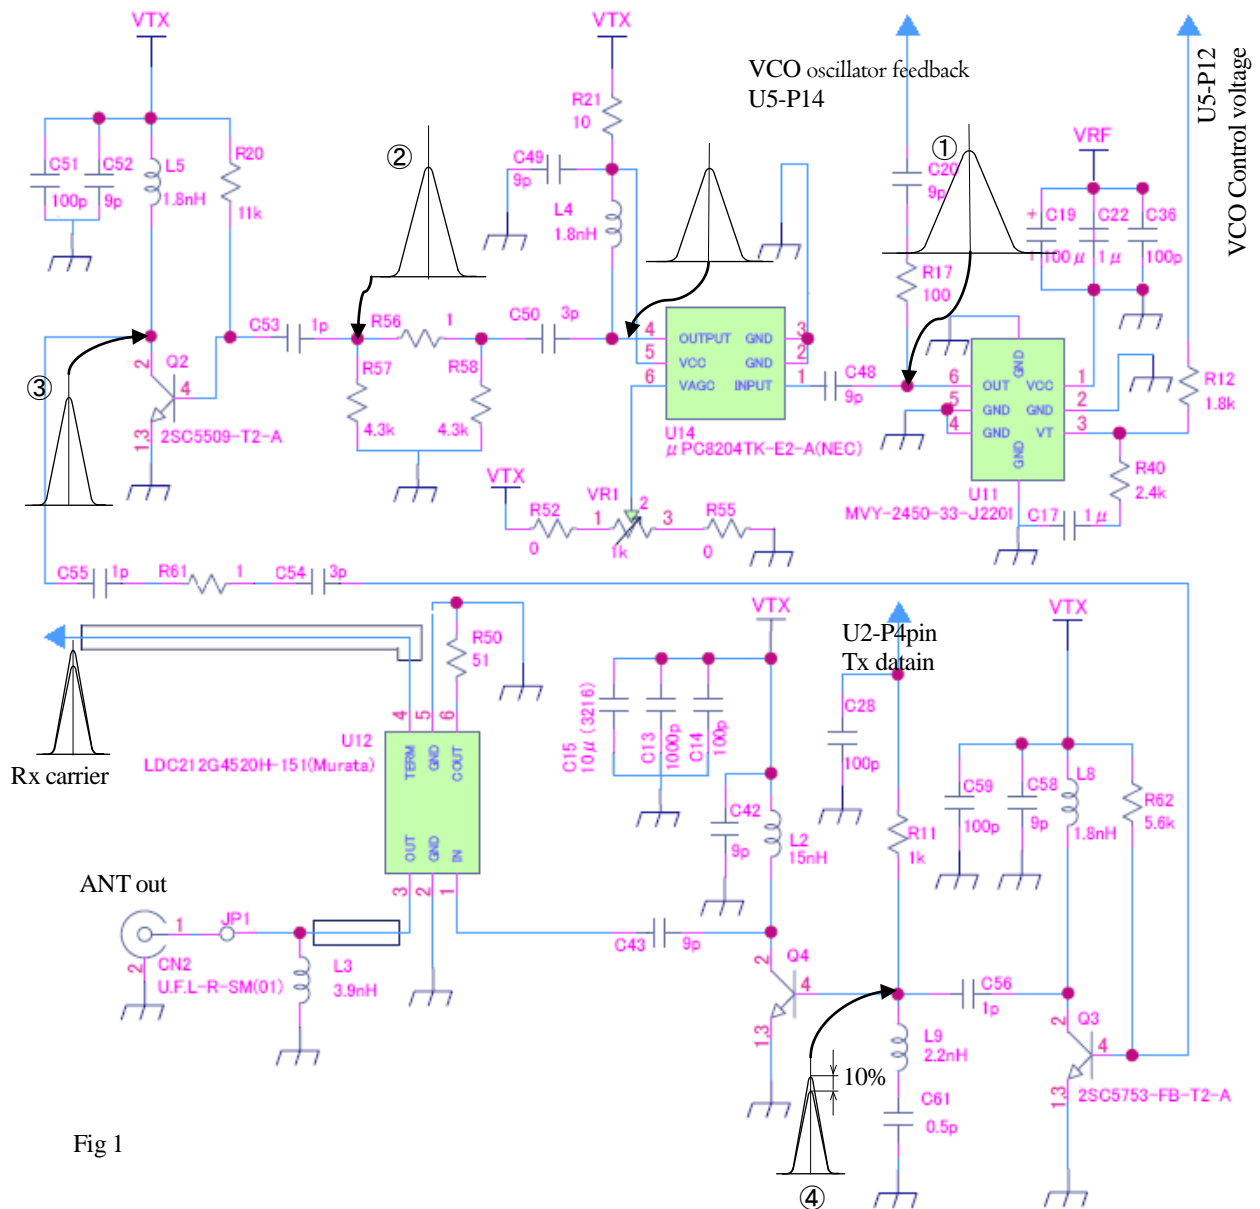

Fig 1
Fig 1 is a transmitting circuit. When VCO Control voltage from U5 PLL Synthesizer LMX 2434 12pin is input, VCO MVY-2450 of U11 oscillate the 2.427GHz - 2.47075GHz (waveform①). C2 output is an oscillator feedback out for U6. Oscillating out can control Gain with Gain Control Amplifier of U14 μ PC8204 and VR1. It does input to Q2 high frequency amplifier transistor base and outputs waveform ③. Q2 base's R56, R57 and R58 are -0.2dB π type attenuator. Q3 and Q4 is a frequency amplifier circuit. It becomes ASK modulation (waveform④) by Tx data Signal from U6 TC7S14 4pin. And, it is adjusted to 10% modulation with R11. Q4's out outputs Tx carrier (waveform⑤) from ANT out by passing Directional coupler. Tx carrier level is adjusted to 150mW with VR1.